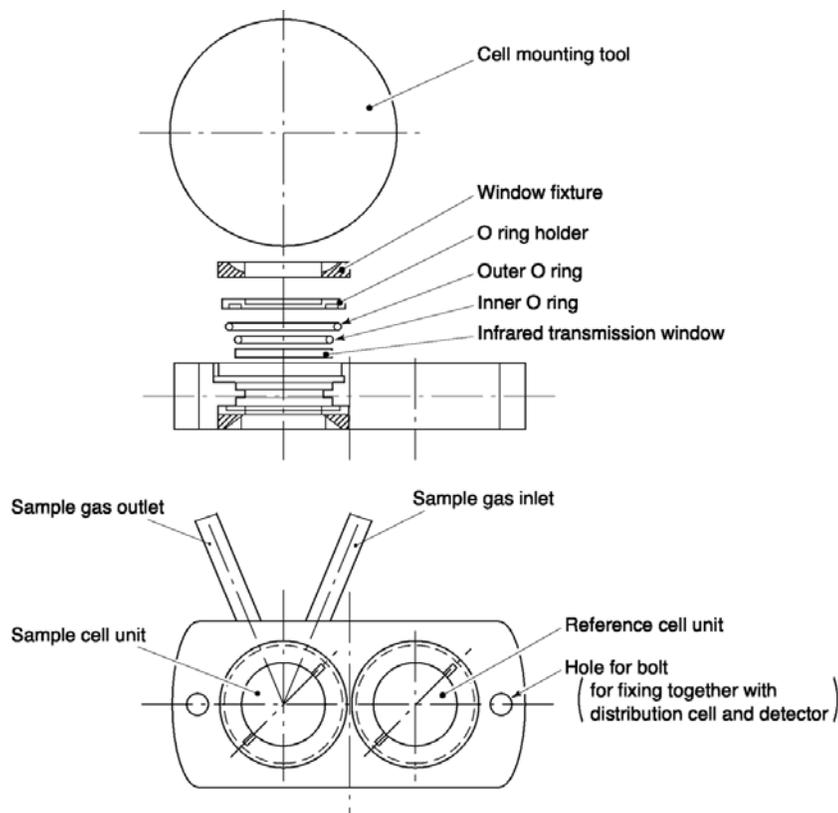

Figure 4-6: Cell Block Assembly
5. Using the furnished cell mounting tool, turn the window fixture to the left and remove it from the cell. See Figure 4-6.